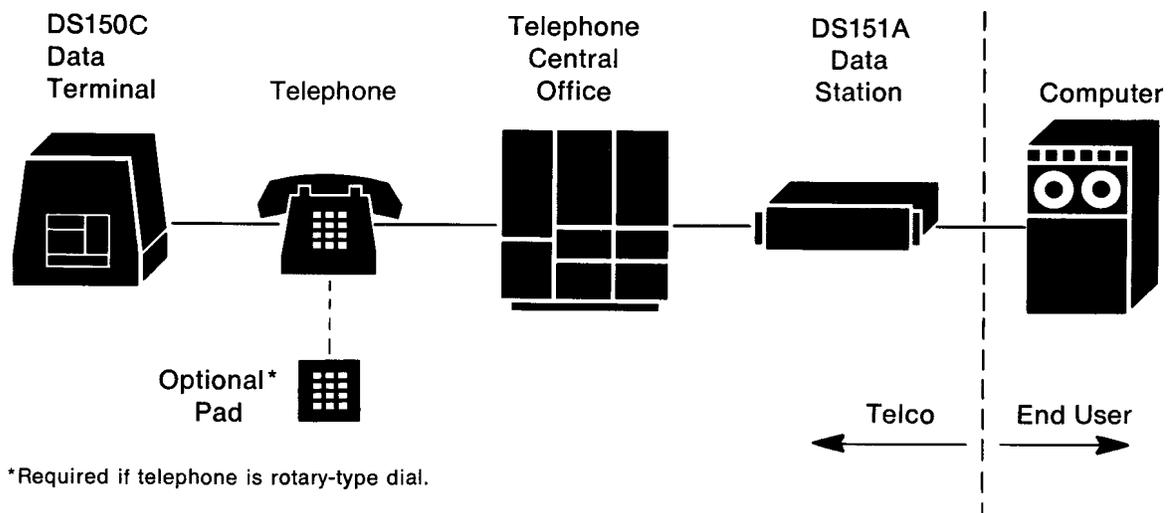

Figure 1, Simplified VuSet Numeric System
1.02 The system includes the VuSet Data Terminal Model DS150C, which is the remote data display device, and the VuSet Data Station Model DS151A, which provides the interface between the telephone network and the customers' computer (DTE). See Figure 1.